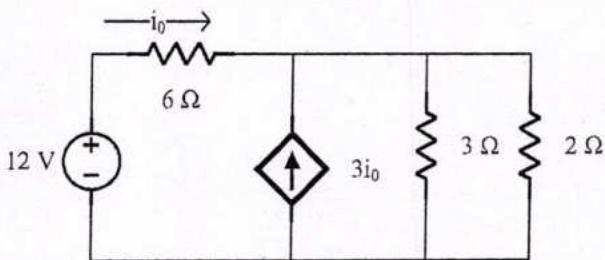

Figure 3
b) In Figure 3, (i) find the load current through a  $2 \Omega$  resistor utilizing Norton's theorem. (ii) prove that the current through a  $2 \Omega$  resistor is equal when utilizing Thevenin's theorem.